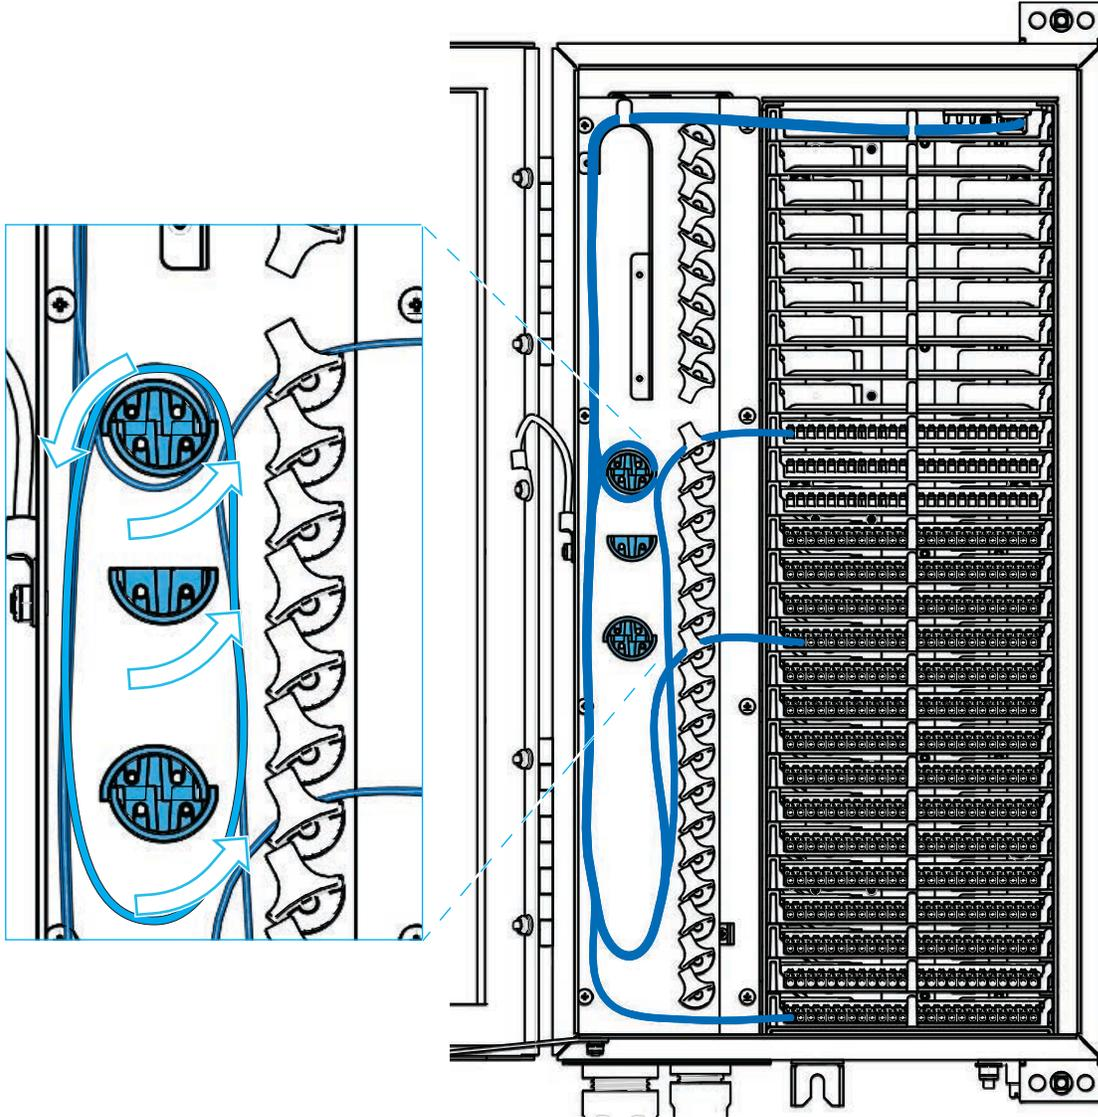
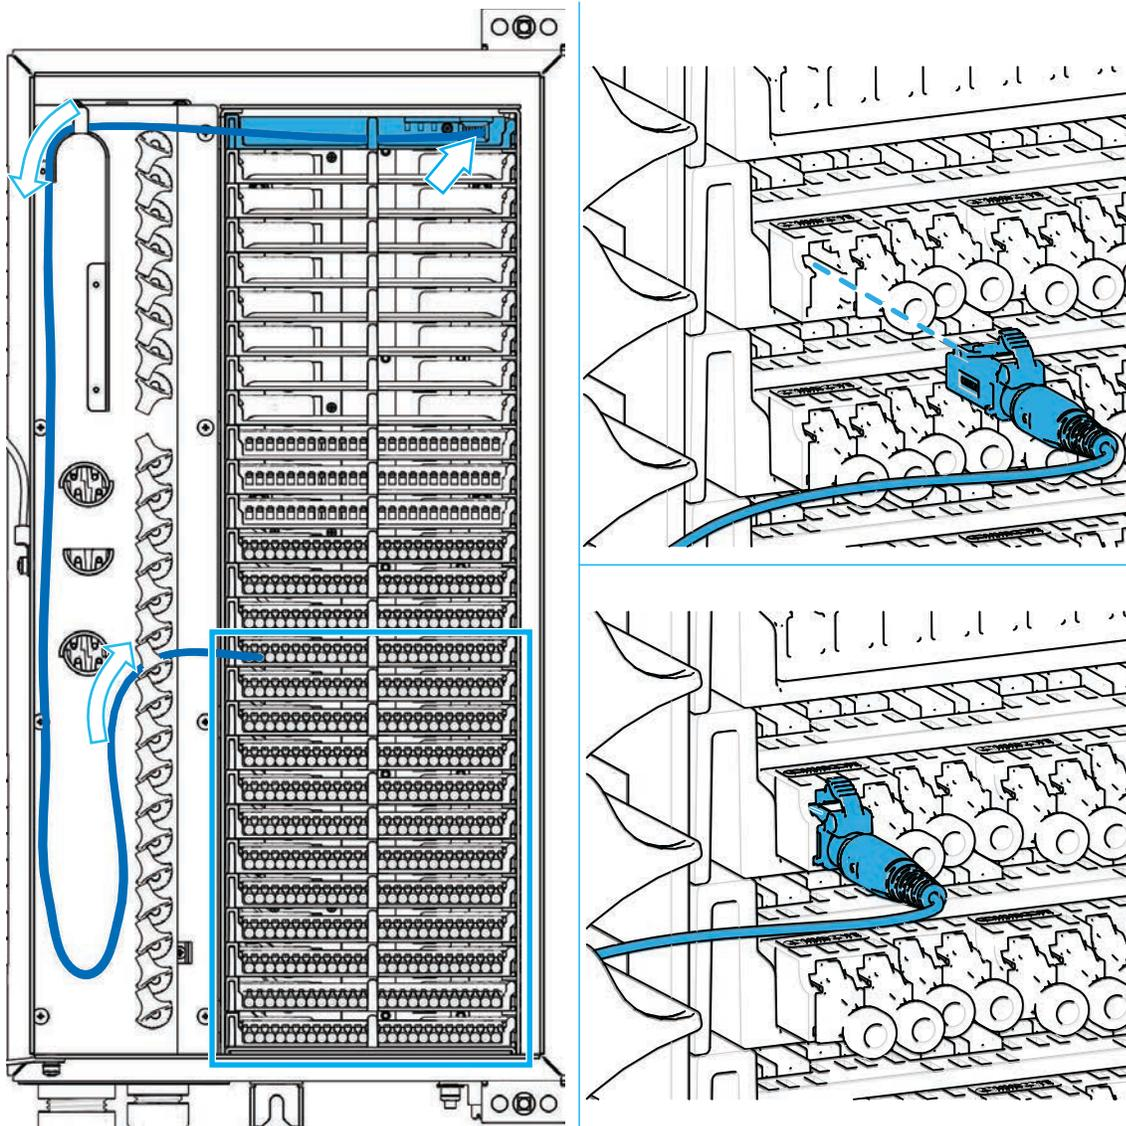

Figure 19. routing zone - drums to take up slack
Figure 21. connect subscriber
4. Connect the connector to the designated feeder port, a clicking sound is noticed. The drums in the routing zone can be used to take up slack. Route and dress the fiber slack as shown in Figure 19.
6. The drums in the routing zone can be used to take up slack. Route and dress the fiber slack as shown in Figure 21 and Figure 19.
2. Select the designated subscriber port. The subscriber ports are the 12 last rows in the adapter panel, see Figure 21.